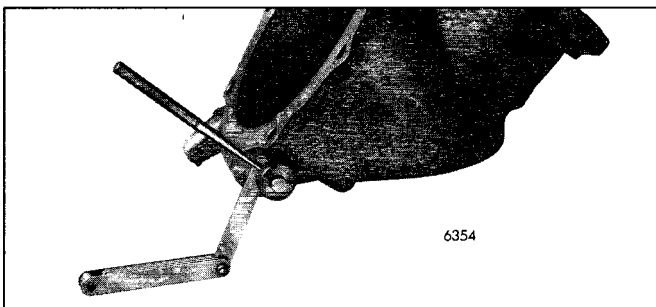

Fig. 3 - Center Punch Shaft thru Spacer Hole
• Fig. 3 Water Strainer Assembly
3. Insert the shaft into the shutdown housing bore and install the spacer on the end of the shaft. Place a .015" feeler gage between the housing and spacer and mark the shaft with a center punch with a center punch inserted into the existing hole in the spacer (Fig. 3).